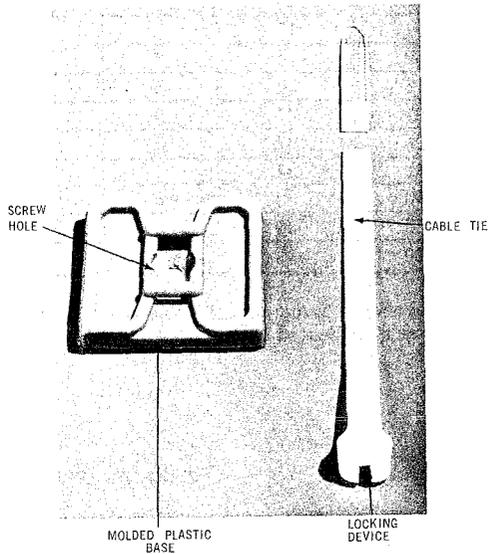

Fig. 8 – Typical Plastic Anchor
3.11 *The Plastic Anchor* is intended for use with wood screws when making attachments to masonry, brick or concrete, (see Fig. 8.) See shipping carton for size of anchor, hole and screw.